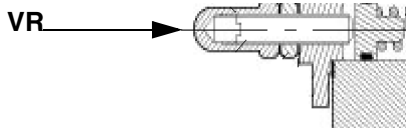

Fig. 31 - Suntec TV governor
- 12 The nozzle supply pressure is already factory-set and must not be changed. Only if necessary, adjust the supply pressure as follows (see related paragraph); read the pressure on the oil pressure gauge on Fig. 32 and act on the Suntec TV governor adjusting screw **VR** (see Fig. 31 and description on page 23) as to get the nozzle pressure at 2bar (see step 9). If the required flow rate is not reached, increase the feeding pressure by means of the Suntec TV governor (see picture below).